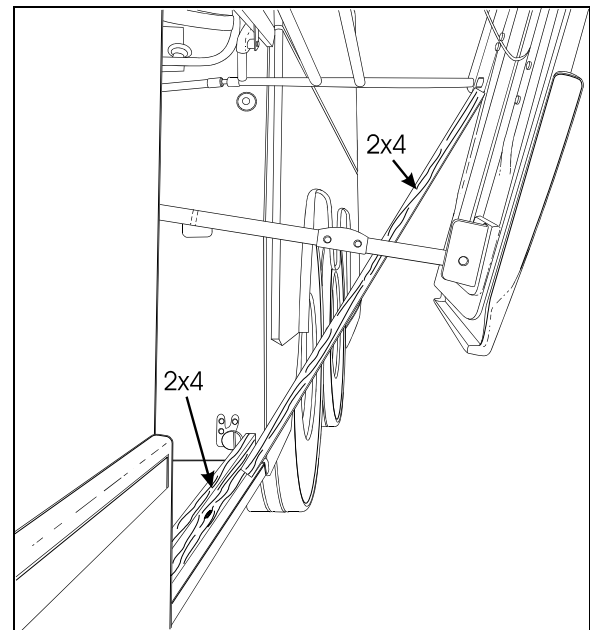

FIGURE 57: PANTOGRAPH ADJUSTMENT 18319
3. Install another piece of 2x4 between the first piece and the bottom of the pivot of the lowest (or shortest) pantograph arm, (Fig. 57).